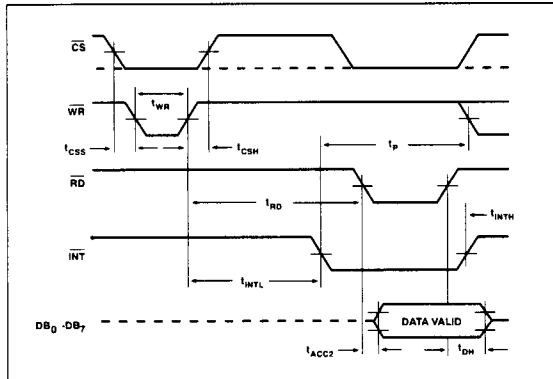

Figure 2: WR-RD Mode (Pin 7 = +5V,  $t_{RD} > t_{INTL}$ )
**Interrupt Scheme (Slower Conversion Speed) (See Figure 2)** — In this scheme, the microprocessor waits until INT goes low before reading data. INT goes low approximately 800ns after the rising edge of the WR signal; this indicates the end of conversion. Data outputs are then active when RD is taken low.